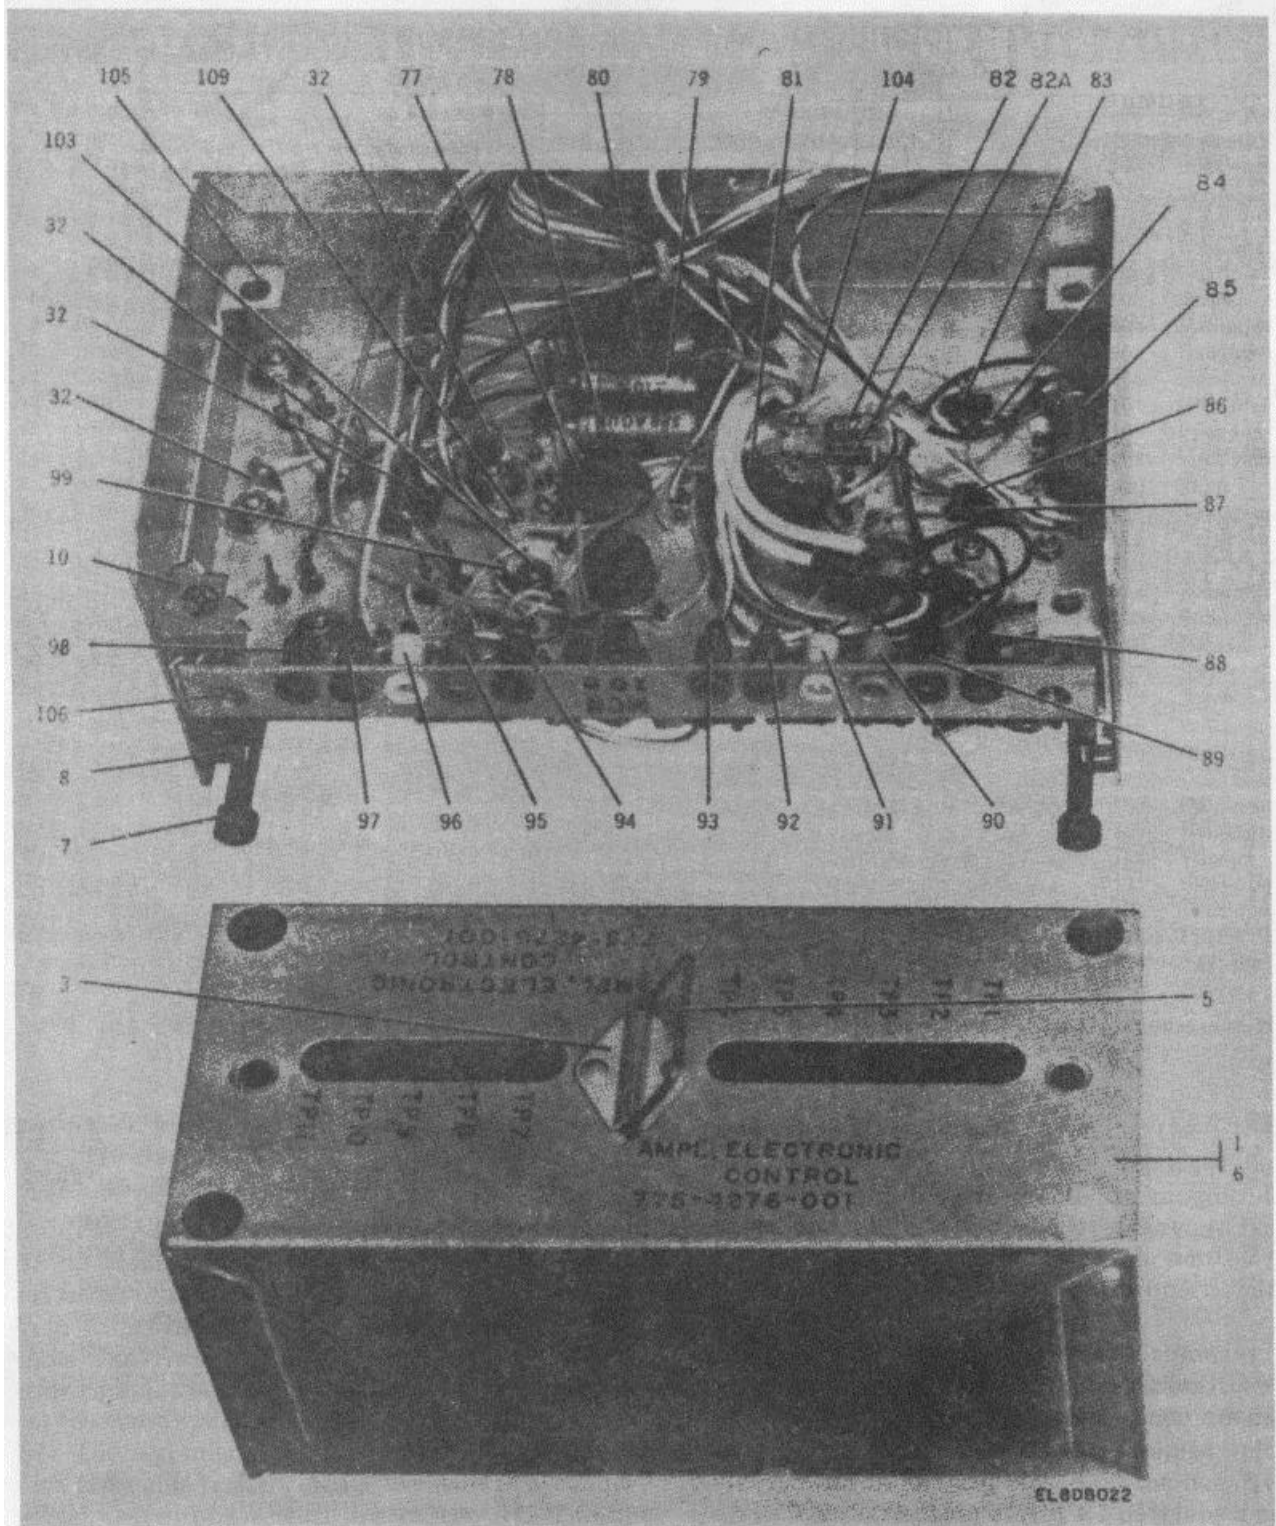

Figure 4-9(1). Control Amplifier A3 (Part Number 775-4276-001), Parts Location (Part 1 of 2).
Legend for figures 4-9(1) and 4-9(2):